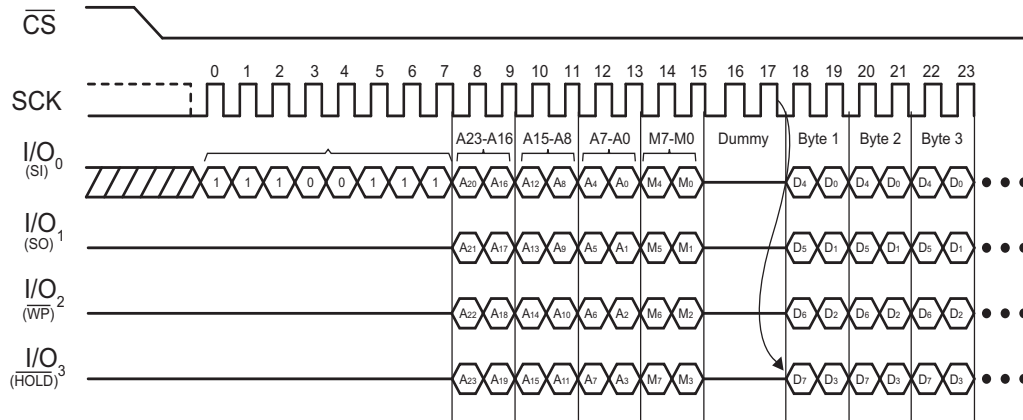

Figure 7-10. Quad-I/O Word Fast Read Timing (Initial Command Set M5, M4 ≠ 1,0) SPI Mode
The Quad-I/O Word Fast Read instruction is similar to the Quad Fast Read instruction, except that the lowest address bit (A0) must equal 0 and have two dummy clock cycles. Figure 7-10 shows the instruction sequence; the first byte addressed can be at any location. The address is automatically incremented to the next higher address after each byte of data is shifted out. The Quad Enable bit (QE) of the Status Register (S9) must be set to enable.